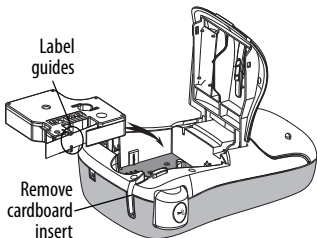

Figure 4
- 2 Before using the label maker for the first time, remove the protective cardboard insert from the label exit slot. See Figure 4.